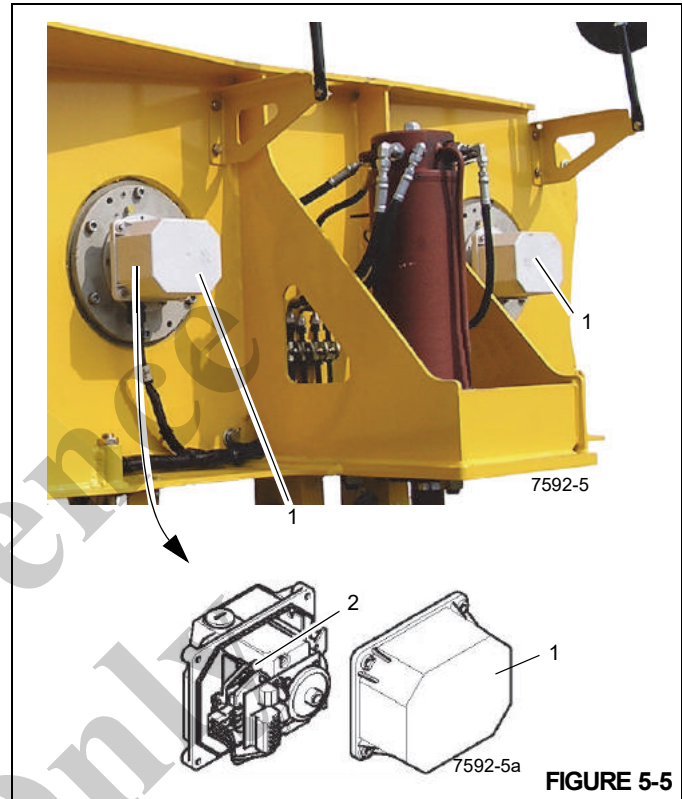

FIGURE 5-5
1. Remove the cover (1) (Figure 5-5).
2. Turn the bolt (2) until you hear the switch activate.